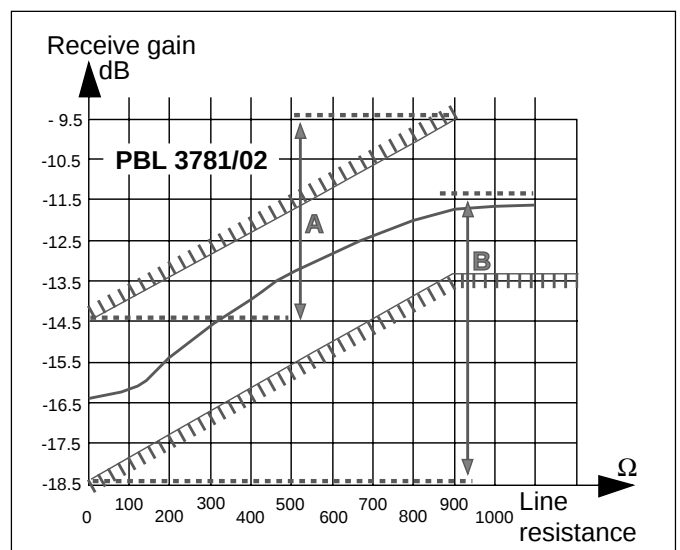

Figure 7. Receiving gain, gain versus line resistance.
**Note 2.** For a circuit with a gain of -18,5 dB at  $R_L = 0 \Omega$ , the gain will be minimum -13,5 dB as specified or maximum -11,5 dB at  $R_L = 900 \Omega$  since the gain regulation range must be less than 7 dB (B in fig. 7).
Correspondingly, if the gain is -14,5 dB at  $R_L = 0 \Omega$ , the gain will be maximum -9,5 dB as specified or minimum -11,5 dB at  $R_L = 900 \Omega$  since the gain regulation range must be more than 3 dB (A in fig. 7).